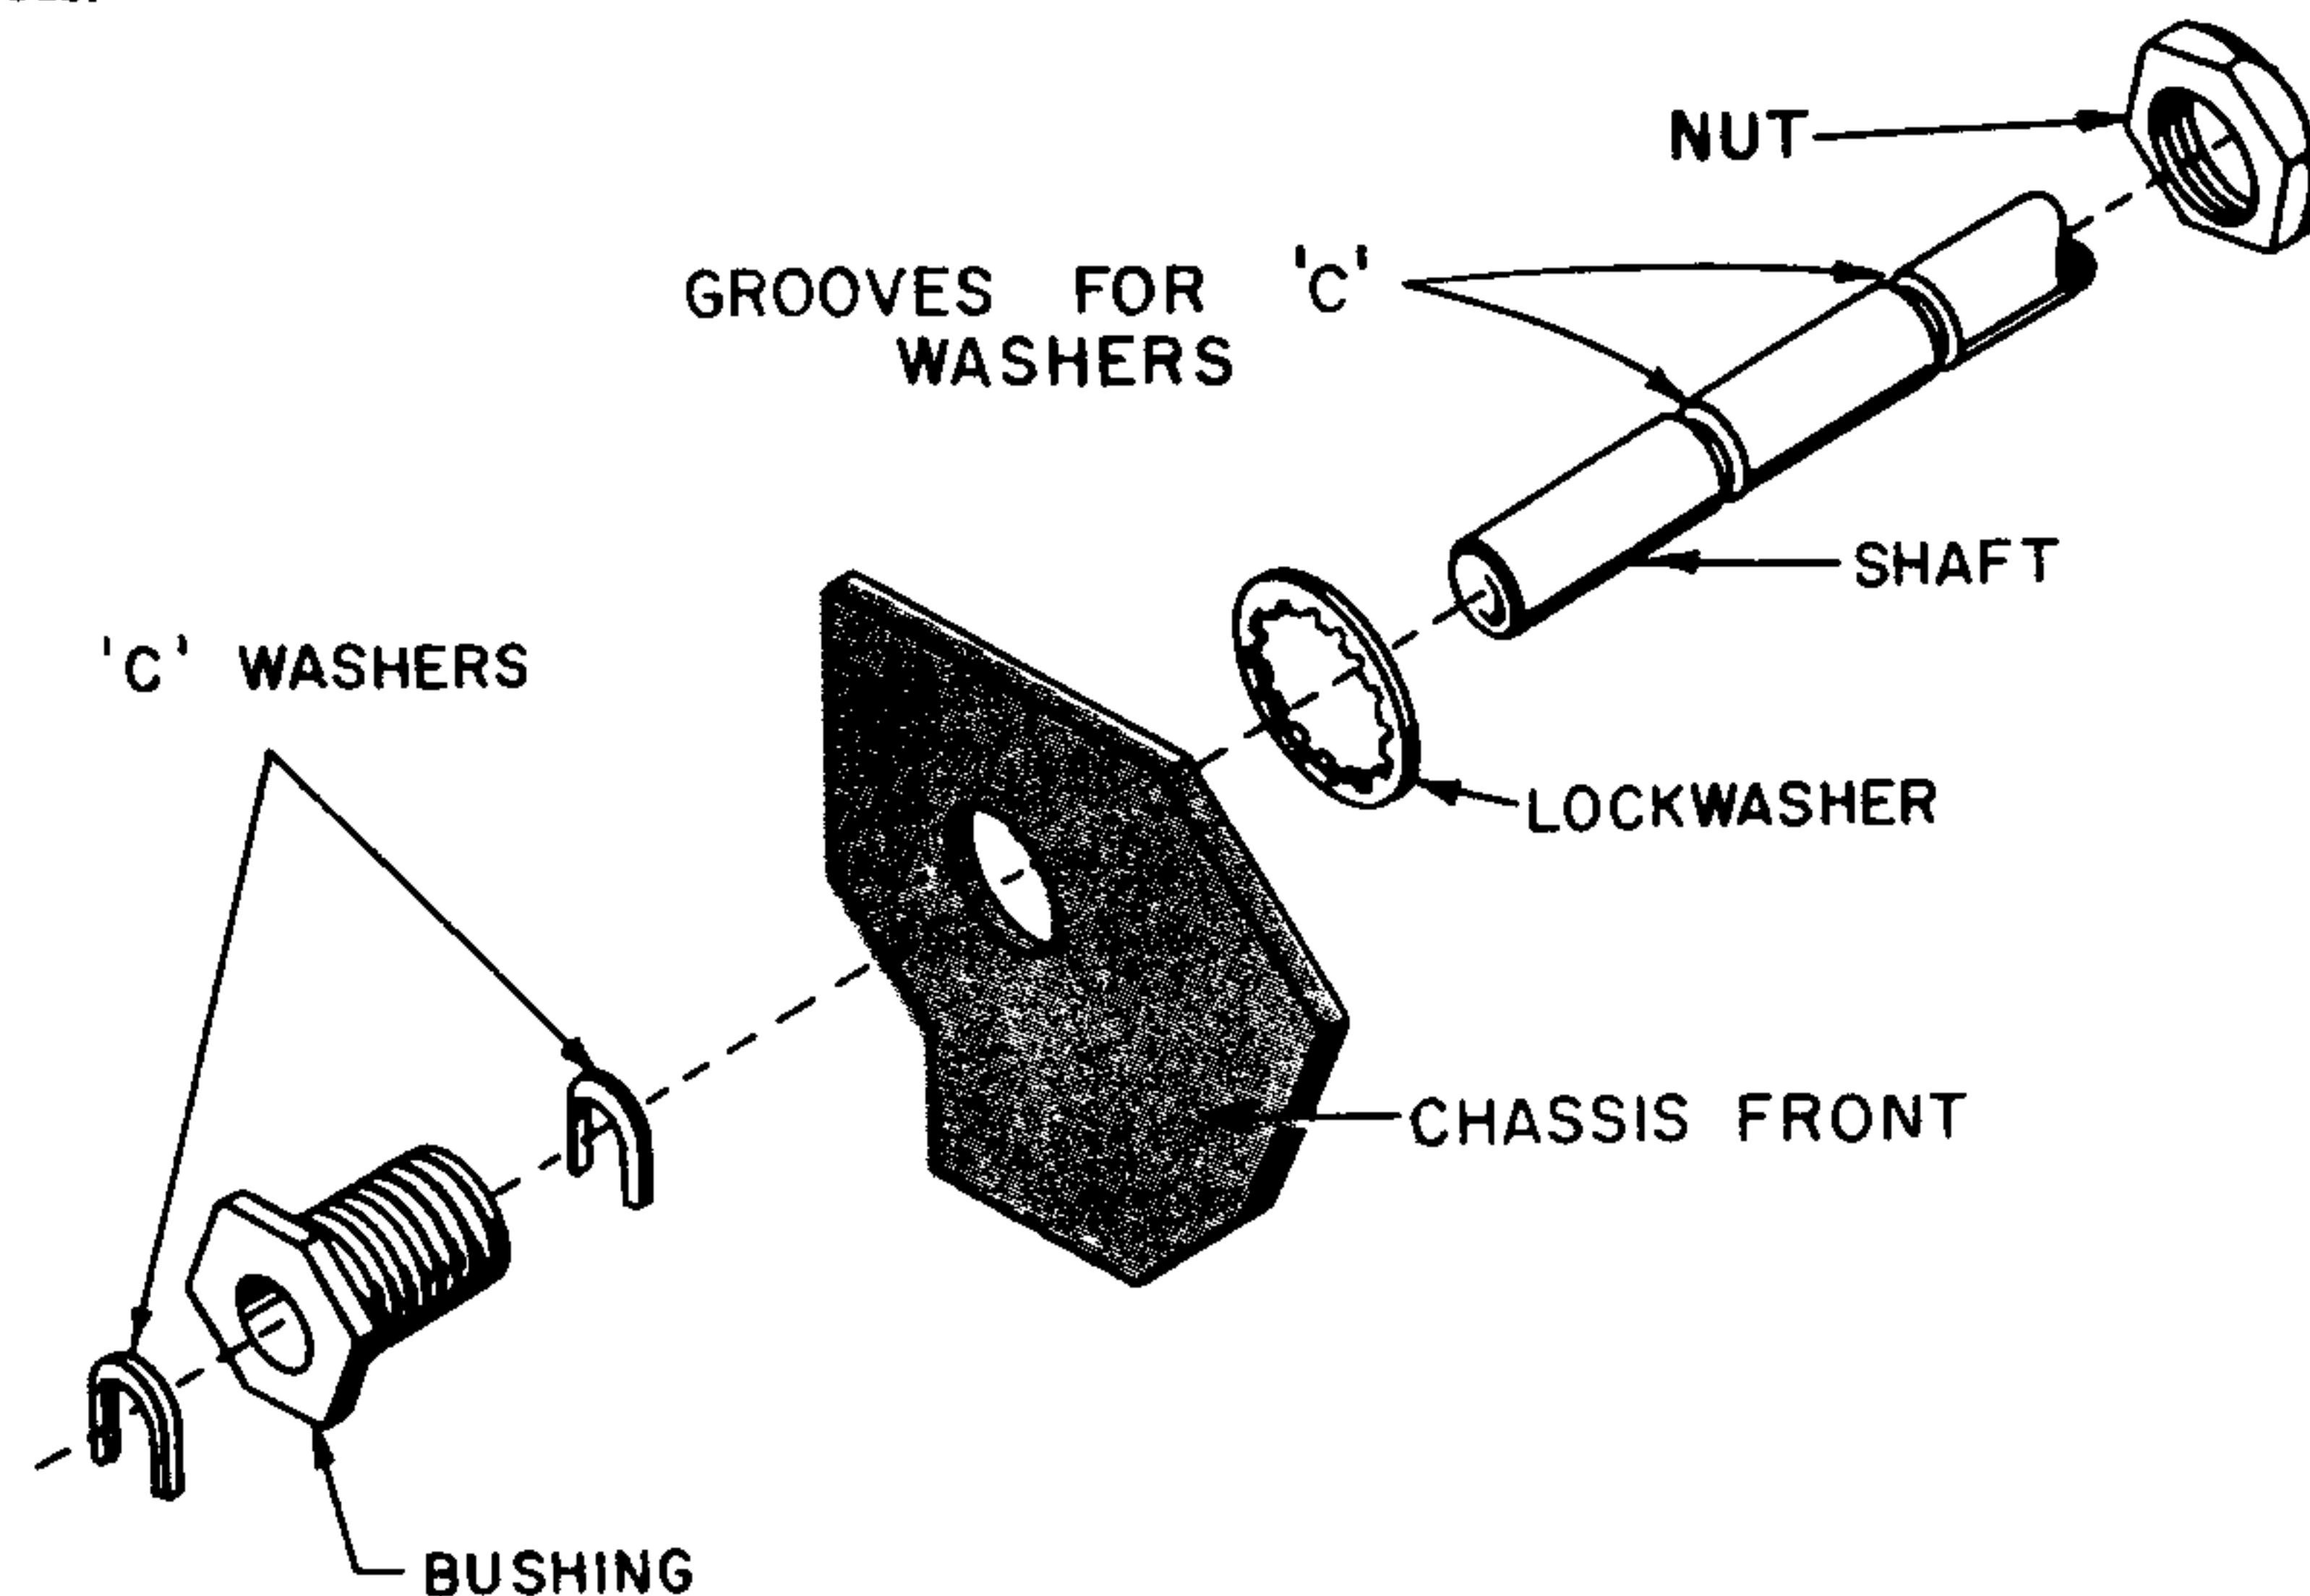

FIGURE 22. BANDSWITCH SHAFT ASSEMBLY
- ☐ Put the BANDSWITCH shaft assembly together as shown in Figure 22. After the "C" washers are in the grooves crimp them so they don't fall off.